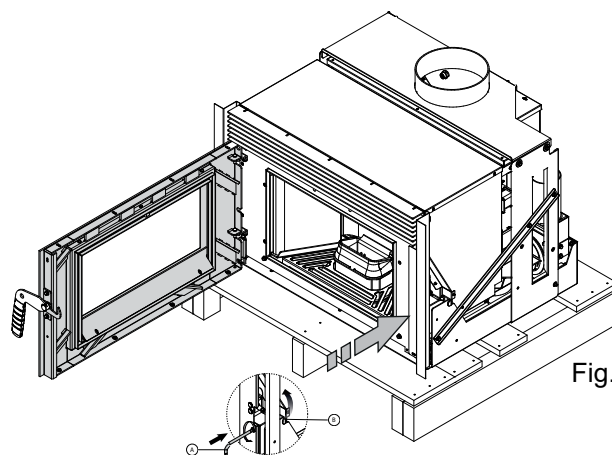
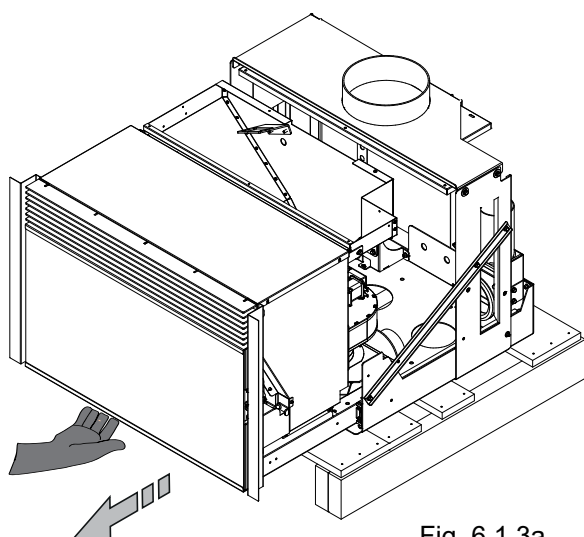

Fig. 6.1.2
Fig. 6.1.3a
4. Insert the Allen key (A) into position in the lock release mechanism; press and turn the locking lever counter-clockwise to position (B) (Fig. 6.1.2), close the door and pull the machine outwards until it reaches the end of the guides (Fig. 6.1.3a).